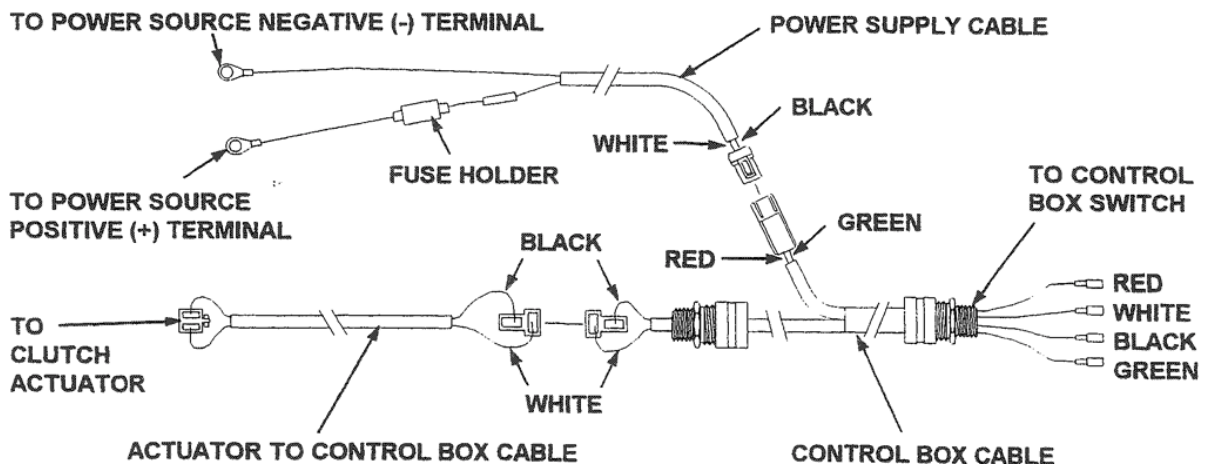

FIGURE 14
**WIRING HARNESS (SEE FIGURE 14)**
Figure 14 shows the information on colour coding of wires and connection points. All electrical connections must be made securely to insure stable electrical contact. If any problems are noted in the operation of the machine, check the electrical connections and the fuse first.